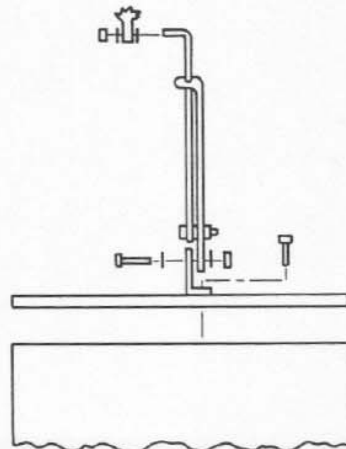

FIGURE 4
3. Bolt driver to horn, attach adjustable bracket assembly to lower hole in horn throat. (see Figure 4)
4. Secure board bracket (item 9) to rear of HMK-2 board [], using supplied *short* bolt. Note: Bolts will not penetrate through board to cabinet.
6. Secure horn/adjustable bracket assembly to front brackets and rear board bracket using hardware supplied. (see Figure 4)